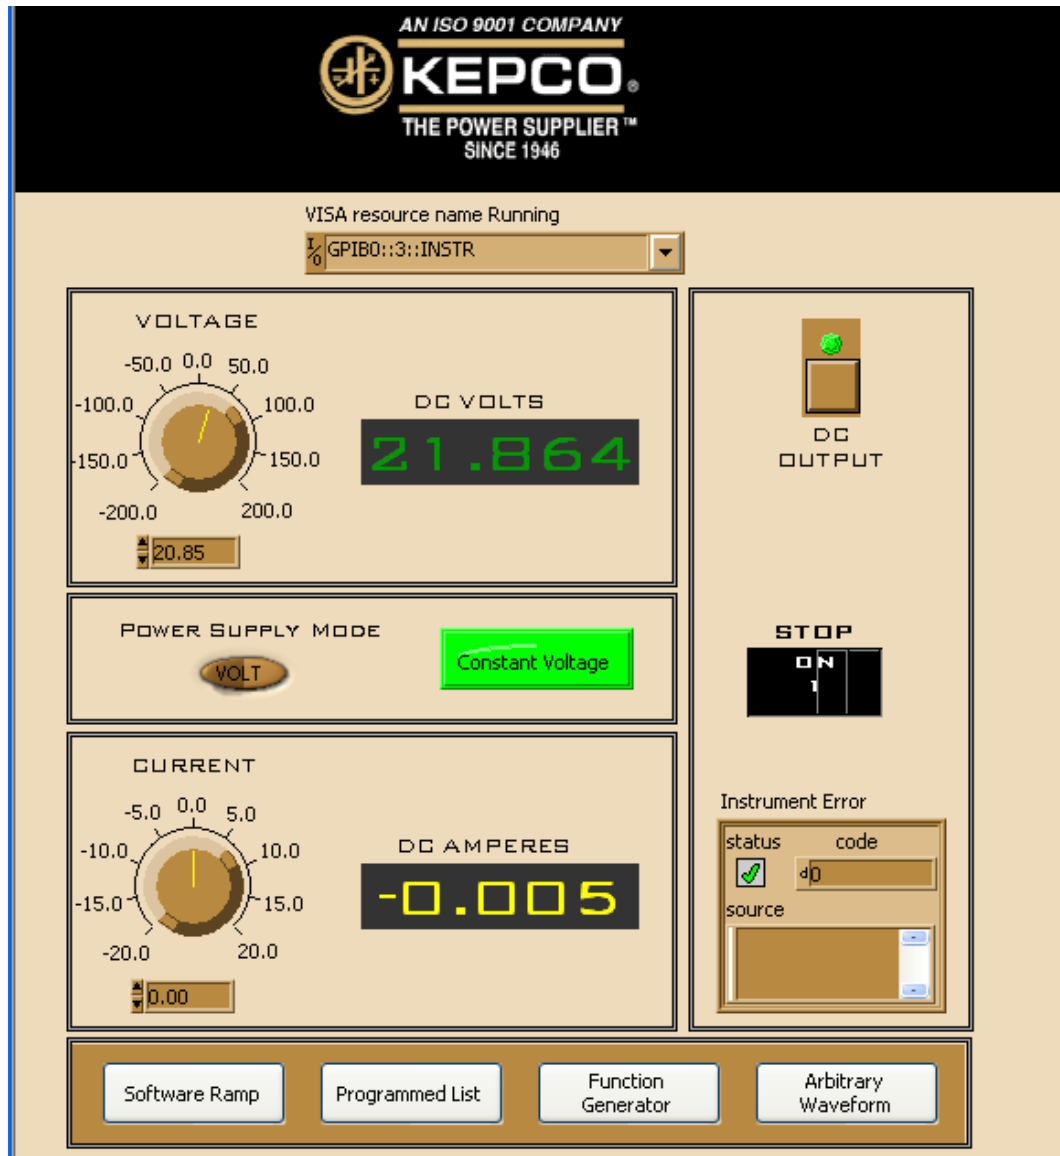
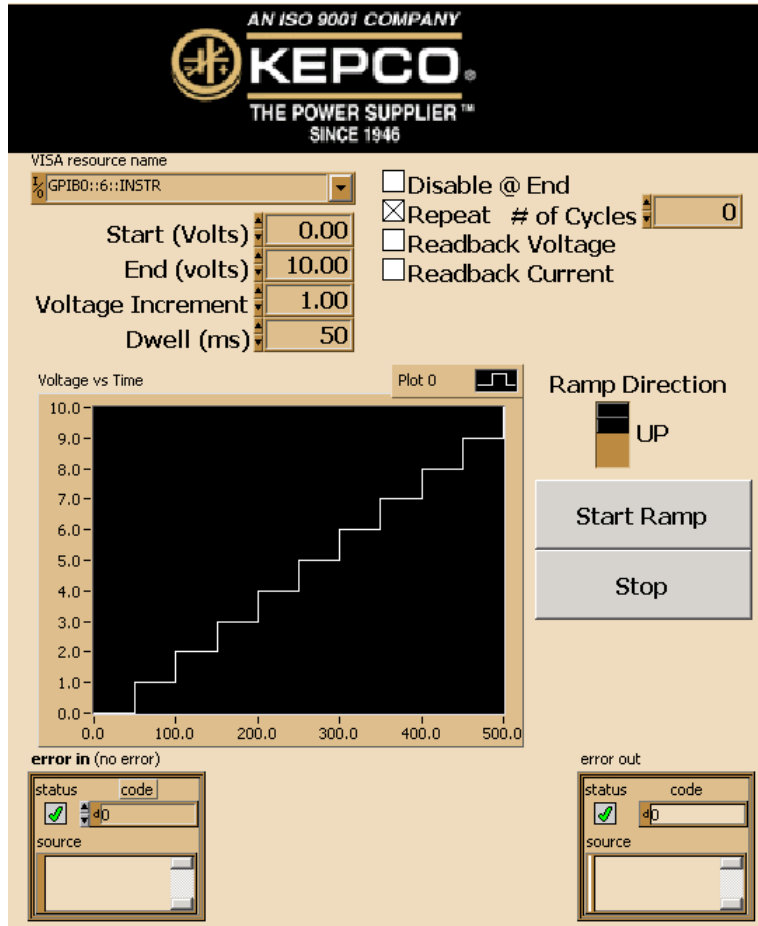
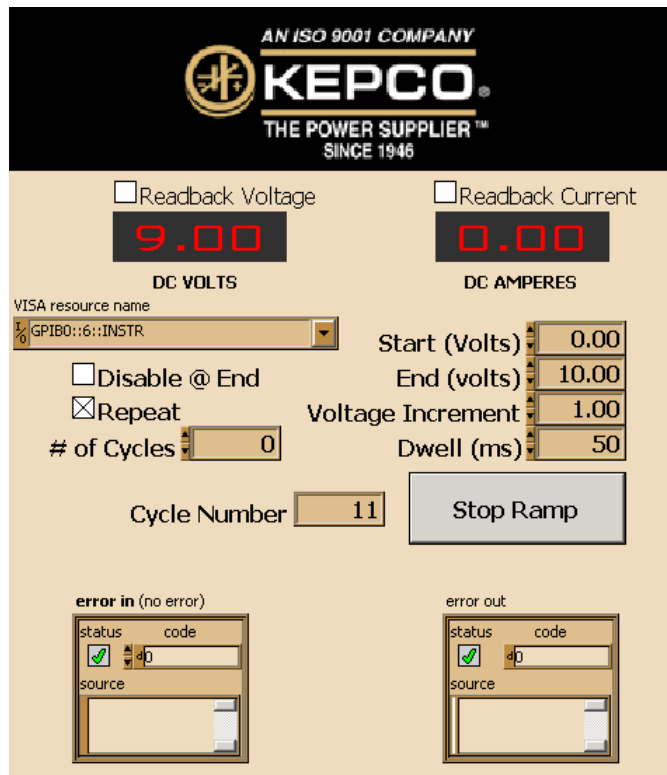

FIGURE 2-10. FRONT PANEL WINDOW
FIGURE 2-11. SOFTWARE RAMP PANEL, CURRENT RAMP EXAMPLE
FIGURE 2-12. RAMP FUNCTION PANEL, CURRENT RAMP
KepcoDCPwr Interactive Example.vi is the main demonstration program. The file is located in program files\national Instruments\labview\drivers\kepco. Either double-click on the file or open the file using File > Open from within LabView. When the program is opened, the Front Panel (Figure 2-10) is displayed.
When the Software Ramp button on the front panel is depressed, the panel shown in Figure 2-11 is displayed. The figure illustrates a current ramp; the voltage ramp panel is similar. The {Power Supply Mode switch on the front panel (Figure 2-10) determines whether the current ramp or voltage ramp is displayed. It is also possible to run this program by selecting either:
- **Readback Voltage, Readback Current.** Once **Start Ramp** is clicked, checked causes the **DC VOLTS** and **DC AMPERES** indicators on the Ramp Function Panel (see Figure 2-12) to show measured voltage and current; unchecked causes the indicators to show the commanded values of voltage and current, respectively.
Clicking the **Start Ramp** button on the Software Ramp panel (Figure 2-11) causes the Ramp Function Panel (Figure 2-12) to be displayed as the ramp is being generated. Checking the **Readback Voltage** or **Readback Current** checkboxes above the **DC VOLTS** or **DC AMPERES** indicators cause the Voltage and Current indicators to show measured voltage and current vs. commanded values of voltage and current if unchecked.